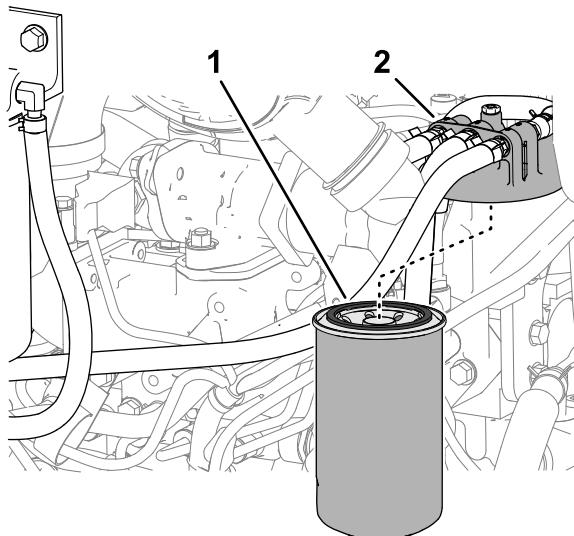

Figure 130
3. Clean the area around the fuel-filter head (Figure 130).
3. Remove the filter and clean the filter-head mounting surface (Figure 130).